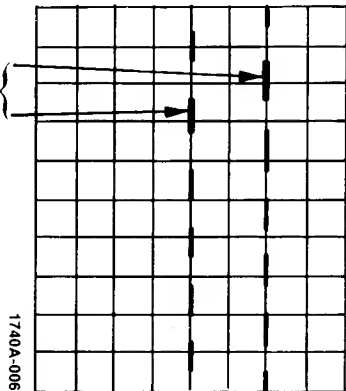

Figure 6a. Normal Display With Intensified Area
3. Set SWEEP AFTER DELAY to AUTO and turn the DELAY **47** control clockwise until the intensified portion of the trace is over the trace area you wish to investigate. This is demonstrated in figure 6a.